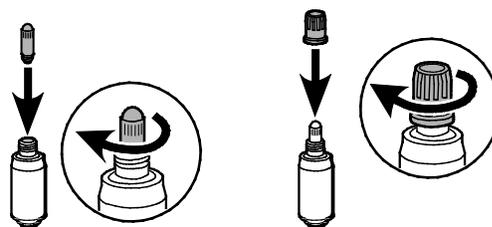

Figure 7
5. Replace lamp and rotate shroud cap clockwise to tighten. See Figure 7.